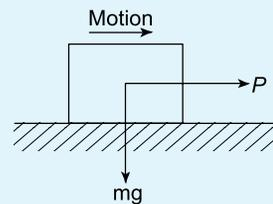

Figure 16.13
1. A mass of 40 kg rests on a flat horizontal surface as shown in Figure 16.13. If the coefficient of friction  $\mu = 0.2$ , determine the minimum value of a horizontal force  $P$  which will just cause it to move. [78.48 N]